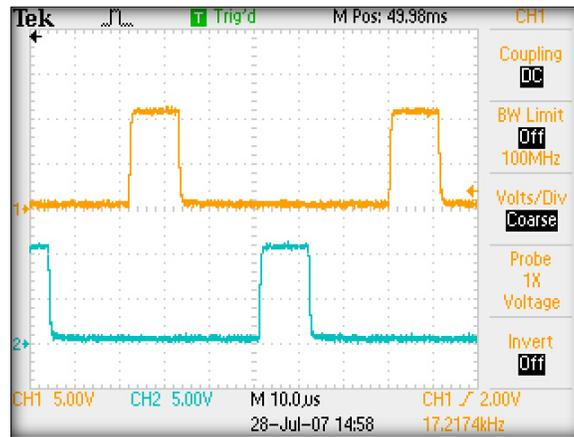

Figure 115: kV Drive Signal
- Verify that the frequency of the signal is between 16.8 kHz and 18.8 kHz. If the frequency is not correct, adjust W7 until the frequency falls within the specified range. See Figure 115.